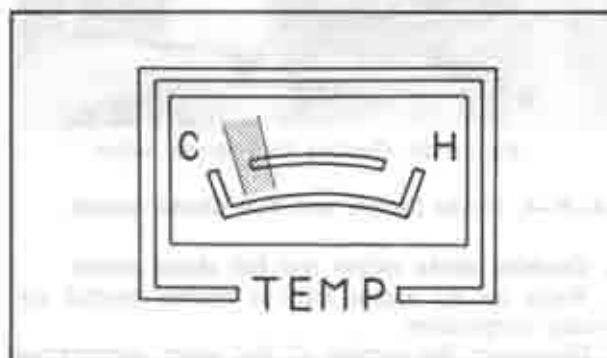

Fig. 1A-26 Water temperature gauge
5. Leave the engine running and check to see that the choke knob returns automatically when the water temperature gauge is indicated the range shown in Fig. 1A-26.